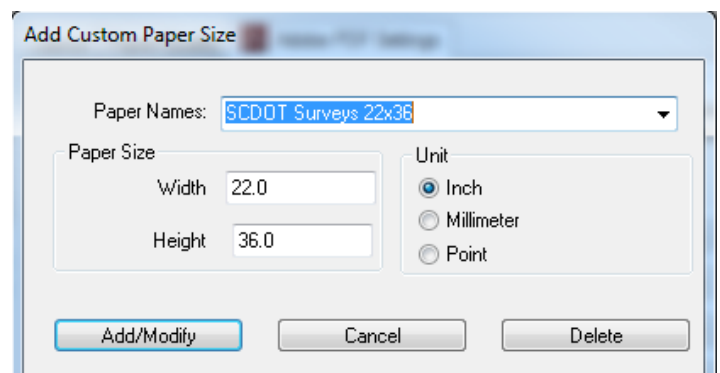

Figure 10
- Select "Add/Modify" button (Figure 10).